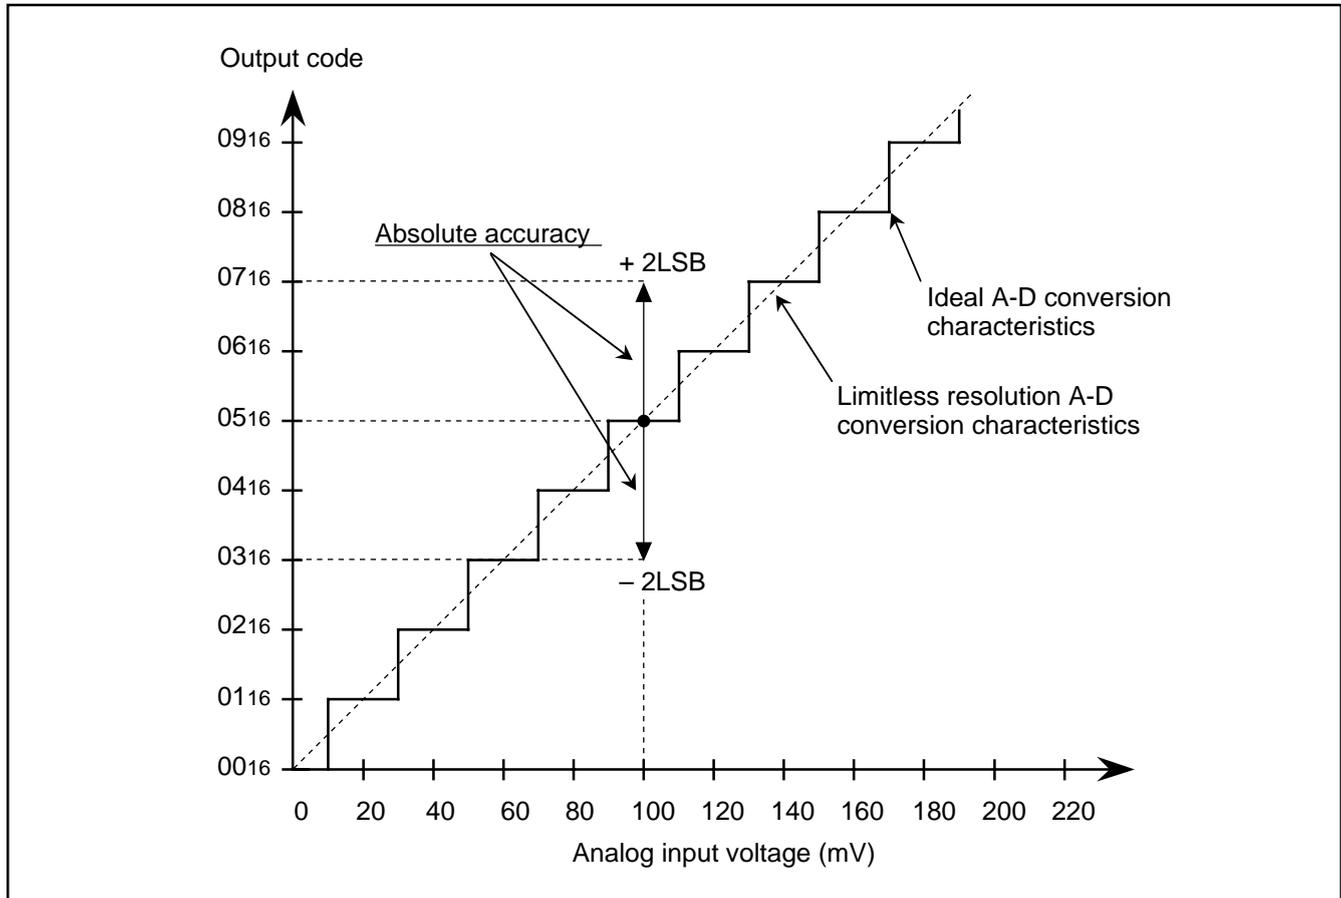

Fig. 8.8.4 Definition of A-D Conversion Accuracy
The definition of A-D conversion accuracy is described below (refer to Figure 8.8.4).
**Note:** The analog input voltage "Vn" at which A-D conversion output data changes from "n" to "n + 1" (n; 0 to 254) is as follows (refer to Figure 8.8.4) :